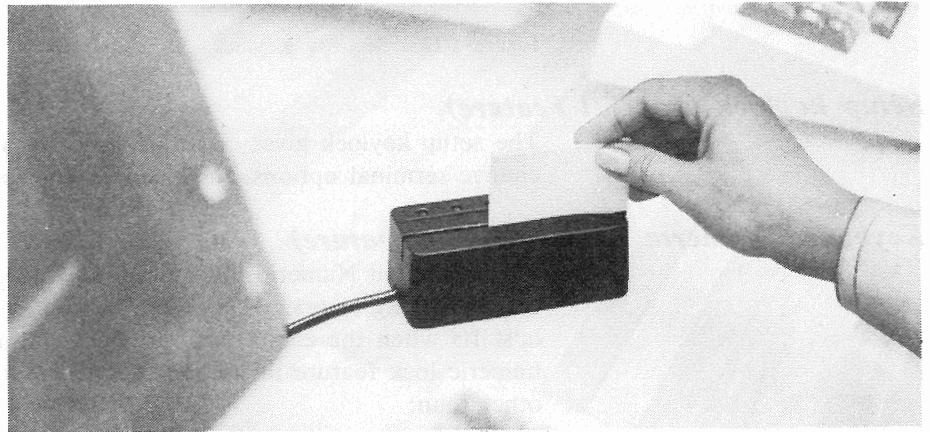

Figure 2-11. Magnetic Slot Reader
- **Magnetic Slot Reader (Figure 2-11).** The magnetic slot reader enables an 8775 to read data encoded on magnetic-stripped cards. For 8775s *without* Enhanced-Function-with-Magnetics, the magnetic-stripped cards use a 10-character numeric character set. For 8775s *with* Enhanced-Function-with-Magnetics, the magnetic-stripped cards use a 63-character alphanumeric character set. This character set comprises alphabetic and numeric characters, special characters, and space.